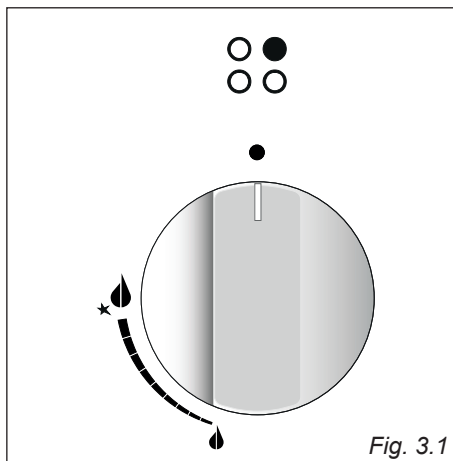

Fig. 3.1
Gas flow to the burners is adjusted by turning the knobs (illustrated in figs 3.1) which control the safety valves.
- 1. Press in the corresponding knob and turn counter-clockwise (fig. 3.2) to the full flame position marked by the  symbol (fig. 3.1); hold the knob in until the flame has been lit.